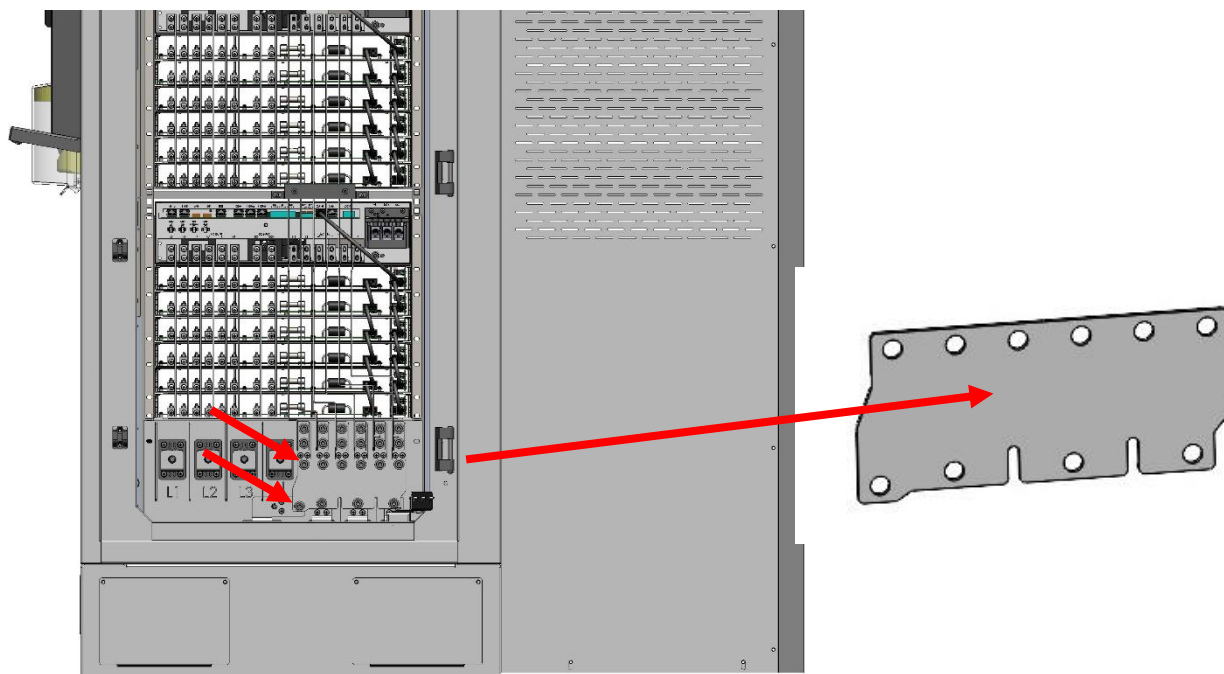

Figure 40 - M6 and M8 socket head cap screws must be removed to remove plastic spacer plate
9. Remove the six M6 and four M8 socket head cap screws that secure plastic spacer plate to Bus Bar (Figure 40), remove spacer plate from Bus Bar, and discard spacer plate.